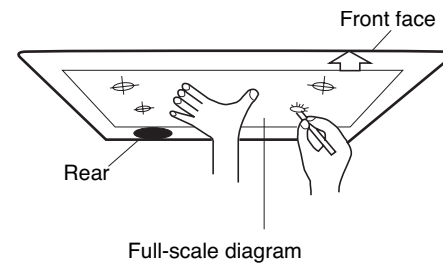

Fig. 3-74
- (1) Place the full-scale diagram (supplied) on the ceiling at the spot where you want to install the indoor unit. Use a pencil to mark the drill holes. (Fig. 3-74).